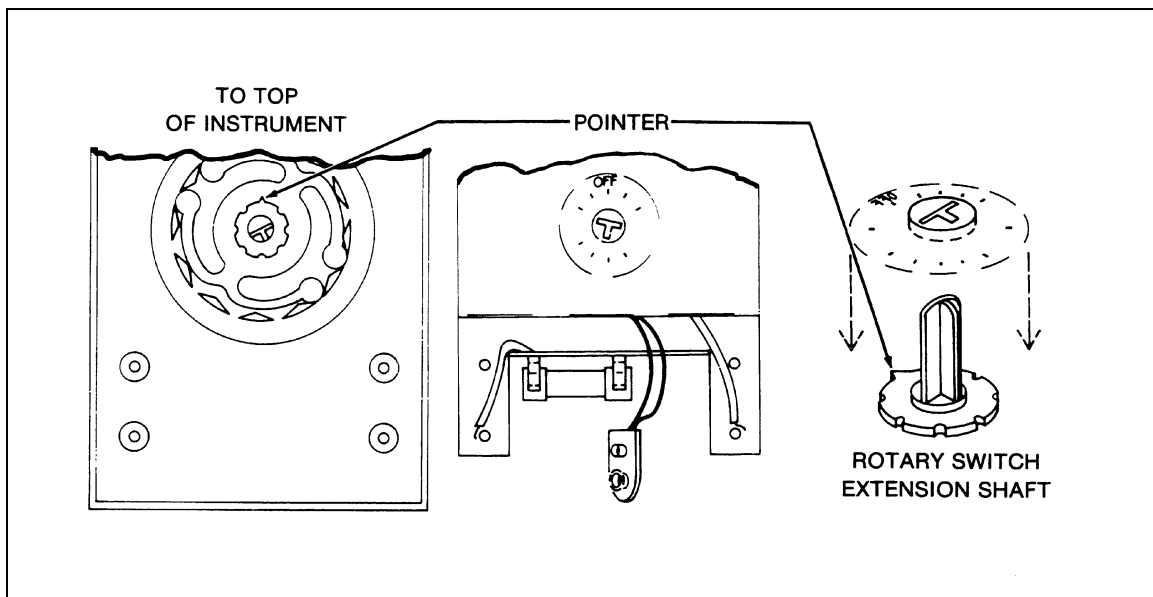

Figure 3-3. Switch Extension Shaft Installation
12. Note the position of the rotary switch extension shaft (MP17). With the rotary switch in the OFF position, the single small pointer on the base of the extension shaft is pointed toward the top of the instrument. Refer to Figure 3-3.